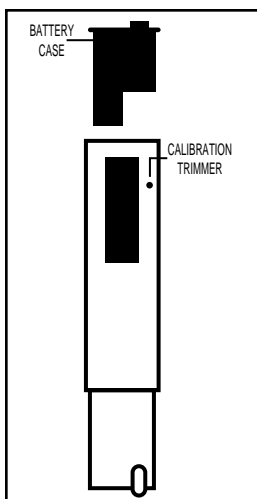

Figure 4
6. If necessary, adjust the calibration. Place a small screwdriver into the hole in the back of the Pocket Pal. See Figure 4. Turn the screwdriver until you obtain the known TDS value of the solution.
2. Replace the 4 batteries (positive terminals up) with EverReady E675E, Duracell RM675 or equivalent. See Figures 4 and 5.